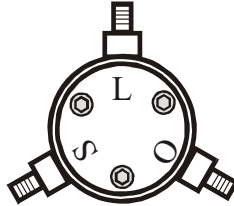

Figure 3 Calibration Standard from Agilent 85033E 3.5 mm Calibration Kit
- 8) Next, select **CALIBRATE** softkey with mouse, which will activate another softkey menu. Using mouse, select **1-Port Cal**, which will activate another softkey menu. Confirm the **Select Port** softkey shows **1**. From the Agilent 85033E 3.5 mm Calibration Kit, take the standard (see Figure 3) with the three female 3.5 mm connectors. Connect the open “O” standard to the 3.5 mm male connector at the end of the coaxial TL by hand to ‘finger tight.’ Then, use the **5 in-lbs torque wrench** on the coaxial TL SMA connector and a **5/16” open wrench** to support the open standard